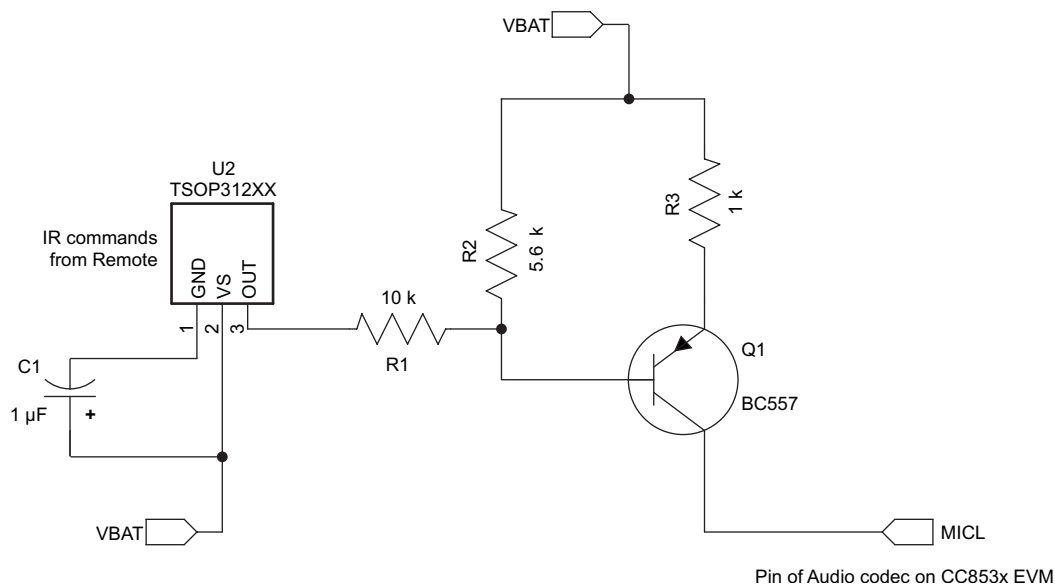

Figure 5. IR Commands from Remote
2. IR commands from Remote are captured by IR receiver TSOP312xx (Figure 5), stepped down in voltage level and fed to the MICL pin of audio codec on Headset EVM located at the remote side.